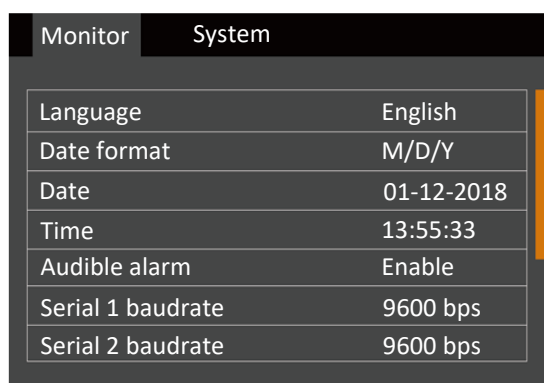

Figure 5-22 Monitor Interface
1. Press the  key to move the cursor to the 'Monitor' interface, see Figure 5-22.